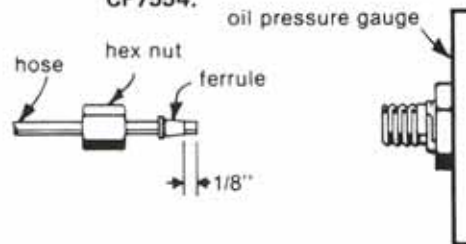

FIGURE 4
1. Slide the hex nut and ferrule onto the hose, leaving 1/8" between the ferrule and the end of the hose. Hold the hose against the gauge and tighten the hex nut snugly. (Figure 4)